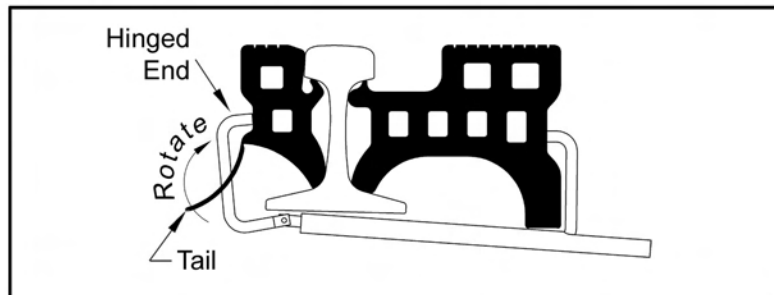

Figure 4
- 4 Cut a vertical slit in the tail of the field railseal to allow the hinged end of clamp to rotate to the position shown in figure 4
- 5 While applying pressure on the clamp from the gauge side, lift & rotate the hinged end on the field side into the recess on the field railseal (Fig. 4)